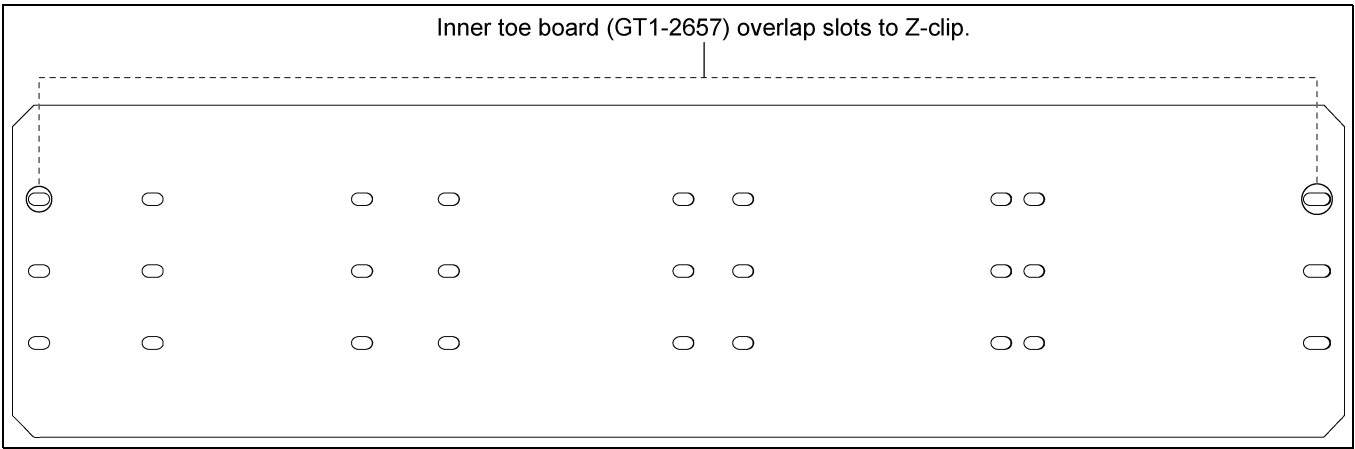

Figure 4I 23'-4" Inner Toe Board (GT1-2657)
3. Inner toe board is arranged with overlap slots on each side. Install 23'-4" inner toe boards (GT1-2657) to corresponding slots as shown in Figure 4I.